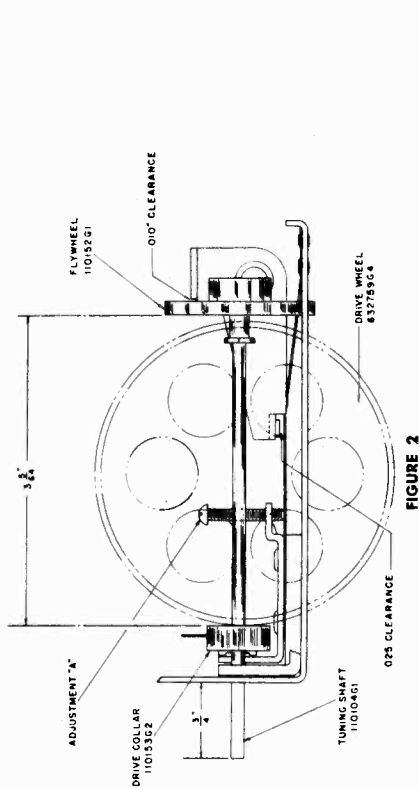
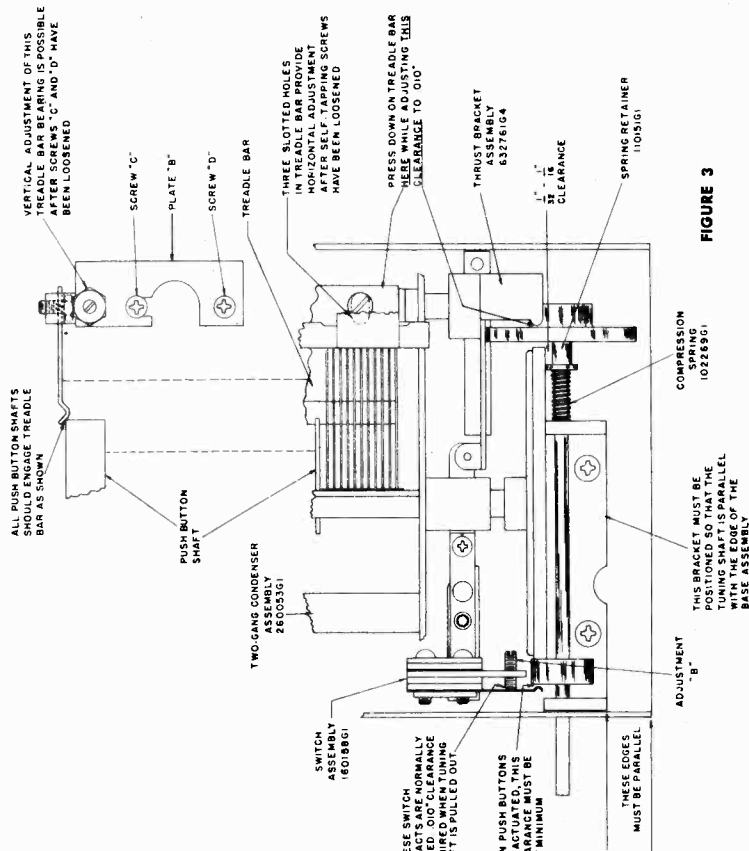

FIGURE 2
FIGURE 3
Whenever any of the mechanical parts in the condenser gang drive assembly require replacement due to rough handling or for any other reason, it is extremely important that clearances and adjustments shown on Figures 2 and 3 are effected; otherwise the tuning mechanism will be sluggish or it may slip during operation.
1. Assemble the Tuning Shaft, Drive Collar, Compression Spring, Spring Retainer and Flywheel in the manner shown on Figure 3. Note that the Tuning Shaft must extend 3/4" from the front of the assembly and that the spacing between the rear of the Drive Collar and the front of the Flywheel must be 3.5/64". Any excess length in the Tuning Shaft may extend beyond the rear of the Flywheel. See Figure 2.
2. The distance between the rubber-tired Drive Wheel and the smaller diameter section of the Spring Retainer must be 1.32" to 1.16" (Figure 3). This adjustment is effected by loosening the two No. 6 Allen set screws in the Drive Wheel hub and sliding the wheel on its shaft until the required clearance is obtained. When the adjustment is completed, tighten the two screws in the hub of the Drive Wheel.
3. While pressing down on the Treadle Bar at the location shown on Figure 3, adjust the Thrust Bracket until the clearance between the rear of the Flywheel and the projection on the Thrust Bracket is .010" as shown on the diagram. To make this adjustment, loosen the two No. 6 Allen set screws (use No. 6 Allen Wrench—MagnaVox Part No. 800044G2) in the hub of Thrust Bracket and rotate the bracket until the specified clearance is obtained when the push buttons are NOT actuated. Tighten the two screws securely when the adjustment is completed. Press each push button and check that the Drive Collar is pushed away from the rubber-tired Drive Wheel.
4. Next, adjust the clearance in the muting switch contacts by turning the Phillips-head screw designated Adjustment "A" on Figure 2, until the specified clearance of .025" is obtained (when the push buttons are NOT actuated).
This can usually be accomplished by loosening the two screws designated "C" and "D" on Figure 3, and moving plate "B" in the direction required to correct this condition.
Model CR-208 radio chassis is a two-band tuner that must be used in conjunction with a power amplifier such as the AMP-101 for speaker operation. Heater and plate voltages for the CR-208 radio tuner are supplied from the amplifier chassis; it is therefore essential that the radio and the amplifier chassis be inter-connected during alignment or for other electrical service operations. Models CR-208A and 208B are alike electrically; they differ mechanically in the dial drive assembly. Figures 2 and 3 illustrate the CR-208A dial drive and Figures 4 and 5 the CR-208B assembly.